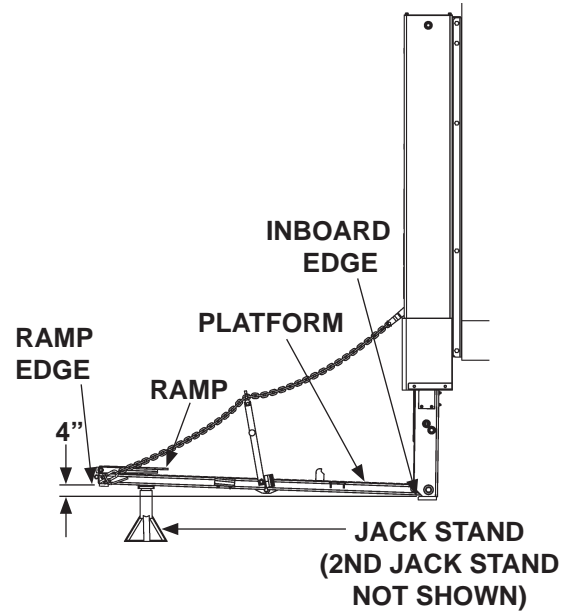

FIG. 2-1
1. Use control box to lower the platform **(DOWN)** to approximately 12" above the ground. Support platform with 2 jack stands (**FIG. 2-1**). Make sure ramp edge is 4" higher than inboard edge of platform.